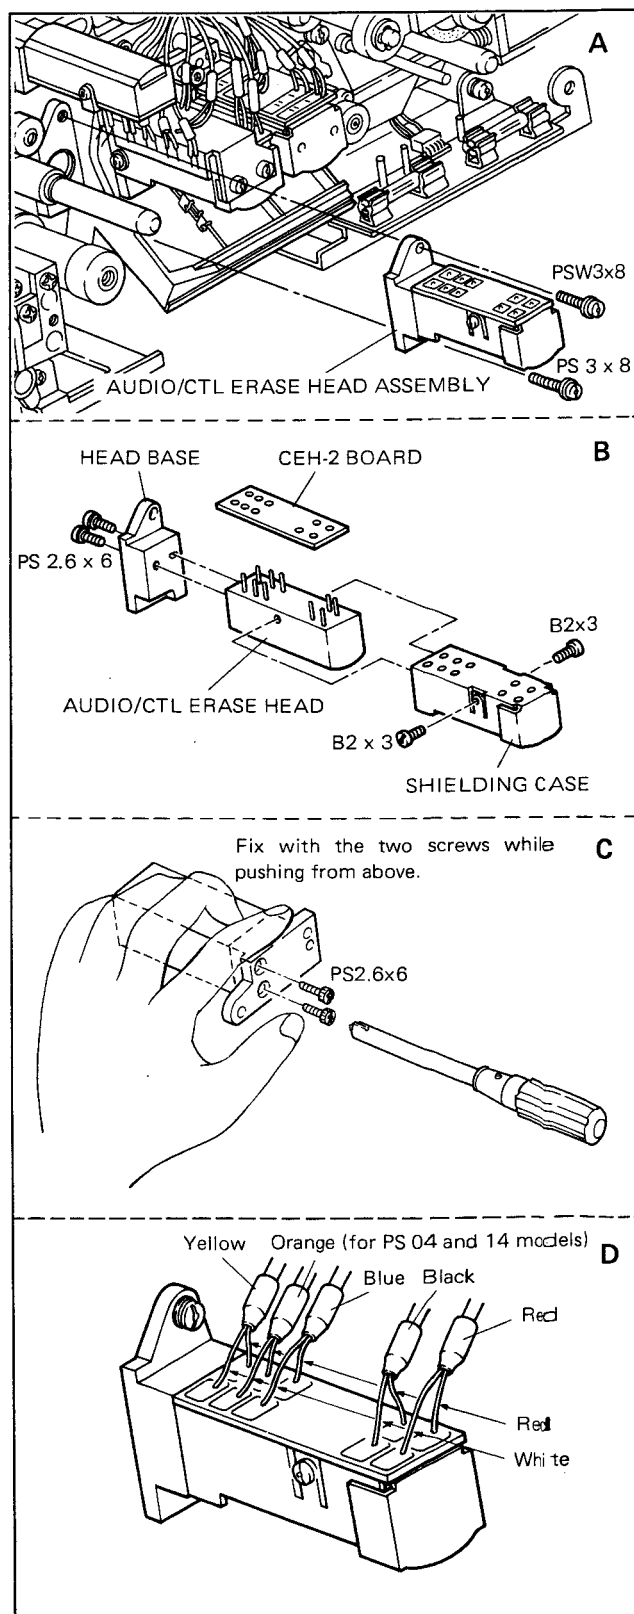

Fig. 3-58. Audio/CTL Erase Head
2. Remove the two screws shown in Fig. 3-58-A, and remove the erase head.
7. Place the erase head as shown in Fig. 3-58-C onto a flat table, depress it lightly from above, and tighten the two screws securely.
11. Solder the leads to the head referring to Fig. 3-58-D.